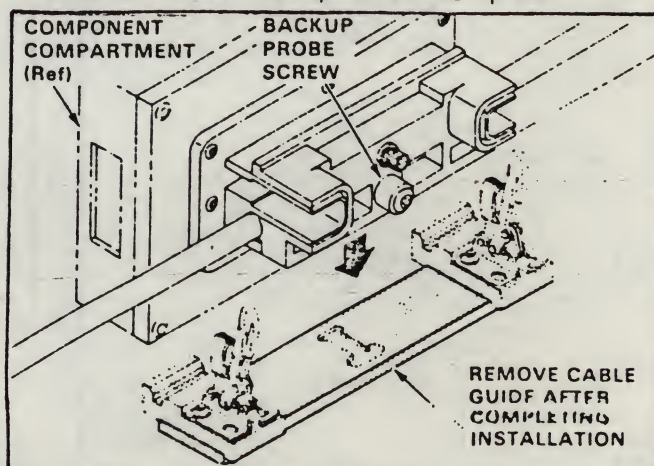

Fig. 11
4. Tighten backup probe screw until it bottoms on clamp block. See Figure 11.
5. Remove cable guide from cable. See Figure 11.